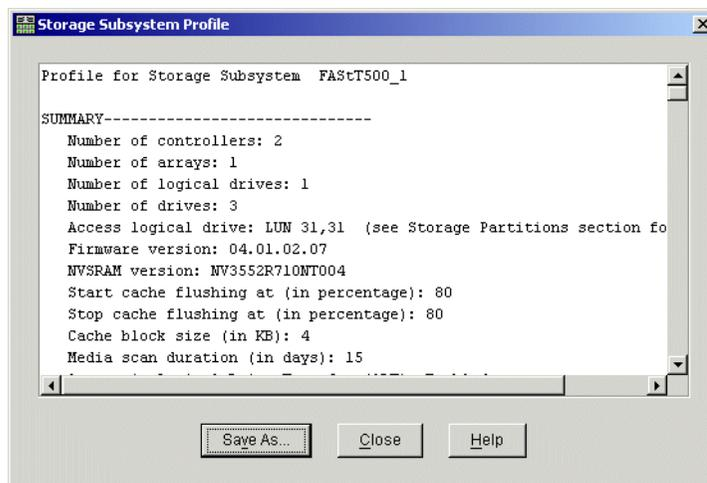

Figure 5-31 Storage Subsystem Profile
2. The Storage Subsystem Profile window is displayed, as shown in Figure 5-31: